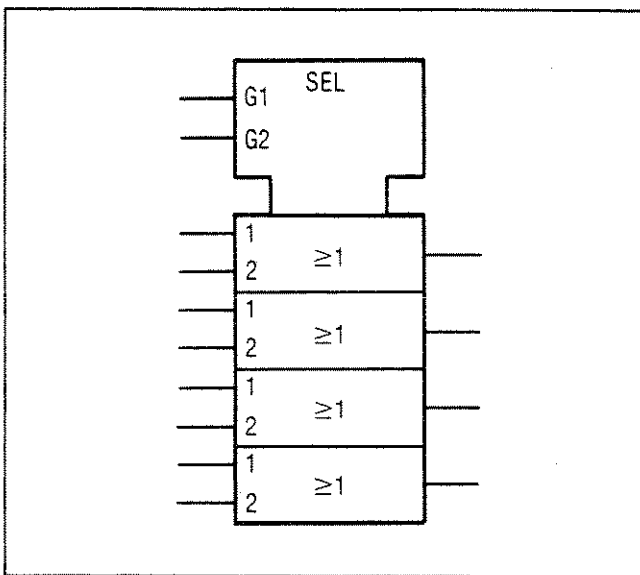

Figure 8-99. AND-OR Selector
**AND-OR Selector.** The selector control block simplifies the AND portion of a quad AND-OR select gate (see Figure 8-99). When G1 is high, the data presented at the "1" inputs is gated through. When G2 is high, the data presented at the "2" inputs is gated through.